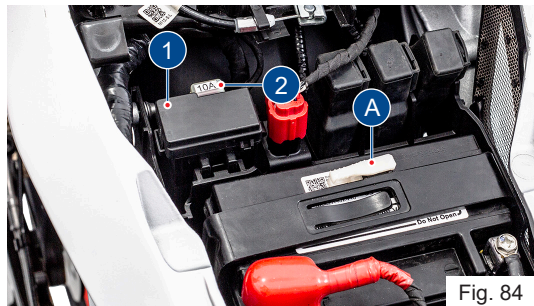

Fig. 84
- Press the lock and open the fuse box cover (1) (ref. Fig. 84).
- An additional 10A HECU protection fuse (2) is provided out side the fuse box as shown in the figure (ref. Fig. 84). Ensure to check this fuse incase if any HECU related electrical issue is found in the system.